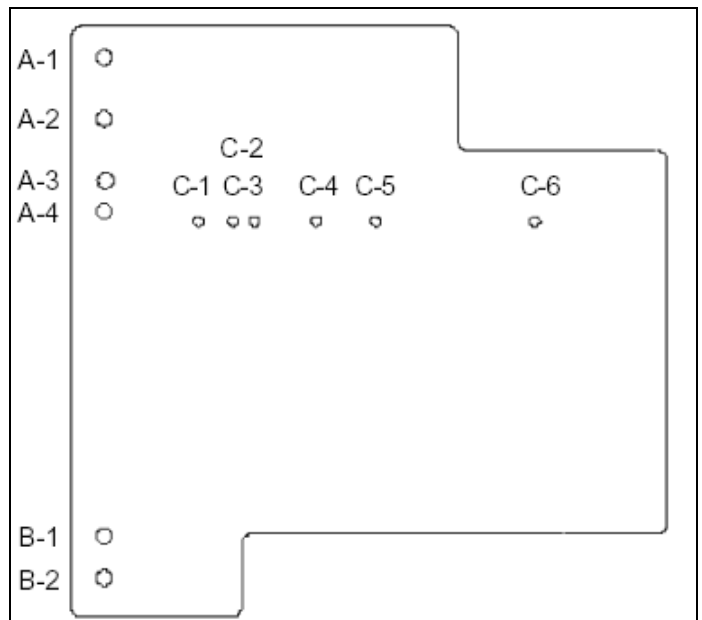

Figure 6-19 Front view of closure tool showing Mounting/testing locations (6352C49H01)
Step 5 - Mount the transparent CloSure™ Test Tool with two bolts and washers. Refer to Figures 6-19, 6-20 and Table 6.4 for appropriate mounting holes. Hand tighten the bolts (Figures 6-9, 6-10, 6-19 and 6-20).
Step 6 - A Sanford® Sharpie® black fine point permanent marker, item no. 30001, is recommended for this next step. Place the marker tip in the proper hole ("C"). Refer to Figure 6-19 and make a heavy mark on the tape as shown in Figure 6-10.